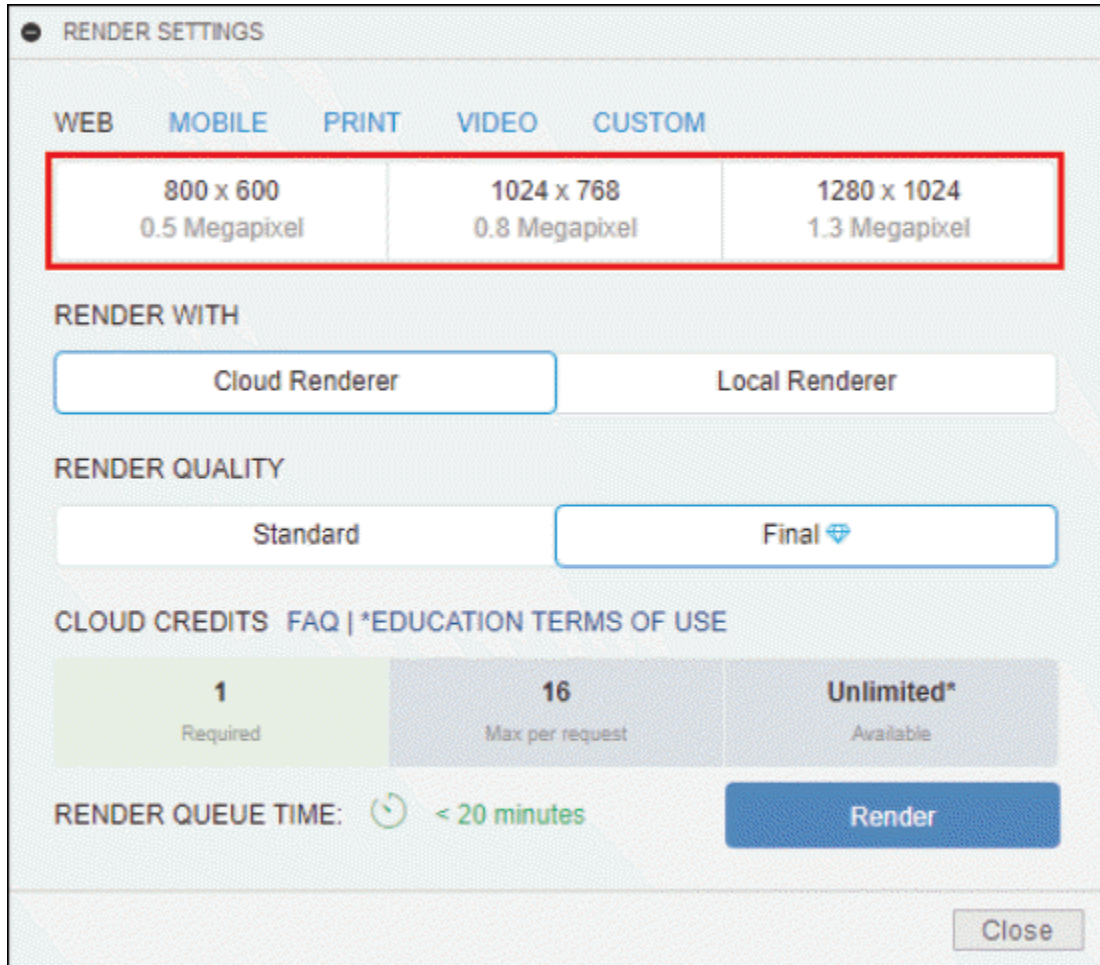

Figure-23. Updated WEB tab
- Click on the **Cloud Renderer** option from **RENDER WITH** section, if you want to render the file from Autodesk cloud. On selecting the **Cloud Renderer** button, the dialog box will be updated; refer to Figure-23.